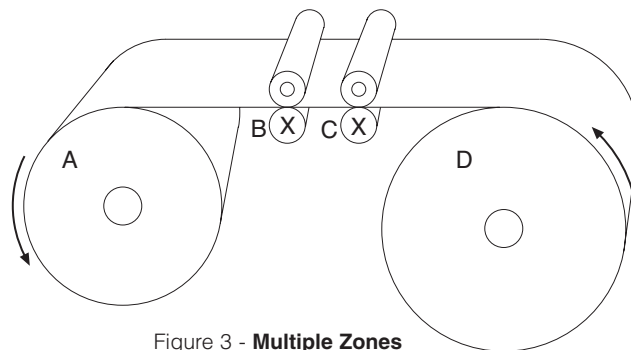

Figure 3 - Multiple Zones (winder, intermediate, unwind)
**III.** More complex machines will usually have multiple intermediate zones in addition to the unwind and rewind zones (see Fig. 3). One of the intermediate zone drives will typically establish line speed, and the control of drive rolls for the other zones will relate to this drive. In some instances, a simple master/slave relationship with a speed differential ratio will provide the draw tension necessary in that zone (i.e. Fig. 3 – B & C). In other cases, this may be